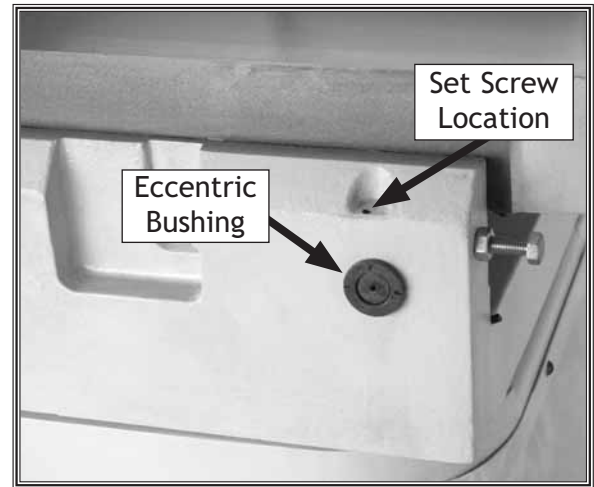

Figure 48. Eccentric bushing and set screw location.
2. Remove the set screw from each of the four eccentric bushings (**Figure 48**) under the outfeed table, and loosen the set screws underneath those removed set screws.